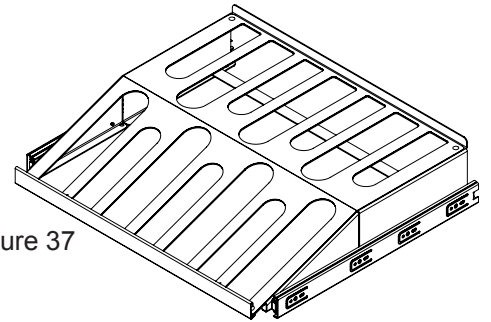

Figure 37
- (1) Seven bottle rollout wine display rack with vibration dampening mat. (See figure 37).